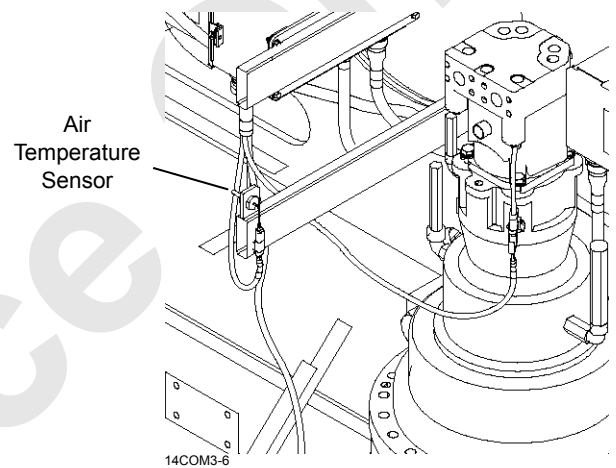

FIGURE 3-20
- If equipped, an optional air temperature sensor monitors ambient temperature in the left side enclosure (Figure 3-20).